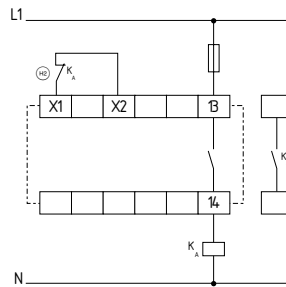

Fig. 11
**Single-channel control with feedback circuit (Fig. 11)**